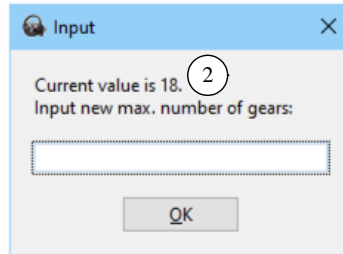

Figure 20. Window to set a new value.
- ② Number of Highest Gear. CarSim and TruckSim have two settings used to determine the number of transmission gears available in a simulation: Number of transmission gears, set on the powertrain's **Transmission** screen (up to 18 forward gears); and the maximum gear the transmission is allowed to shift up to. For Windows DS examples, this is set to 18 (Figure 20, ②).